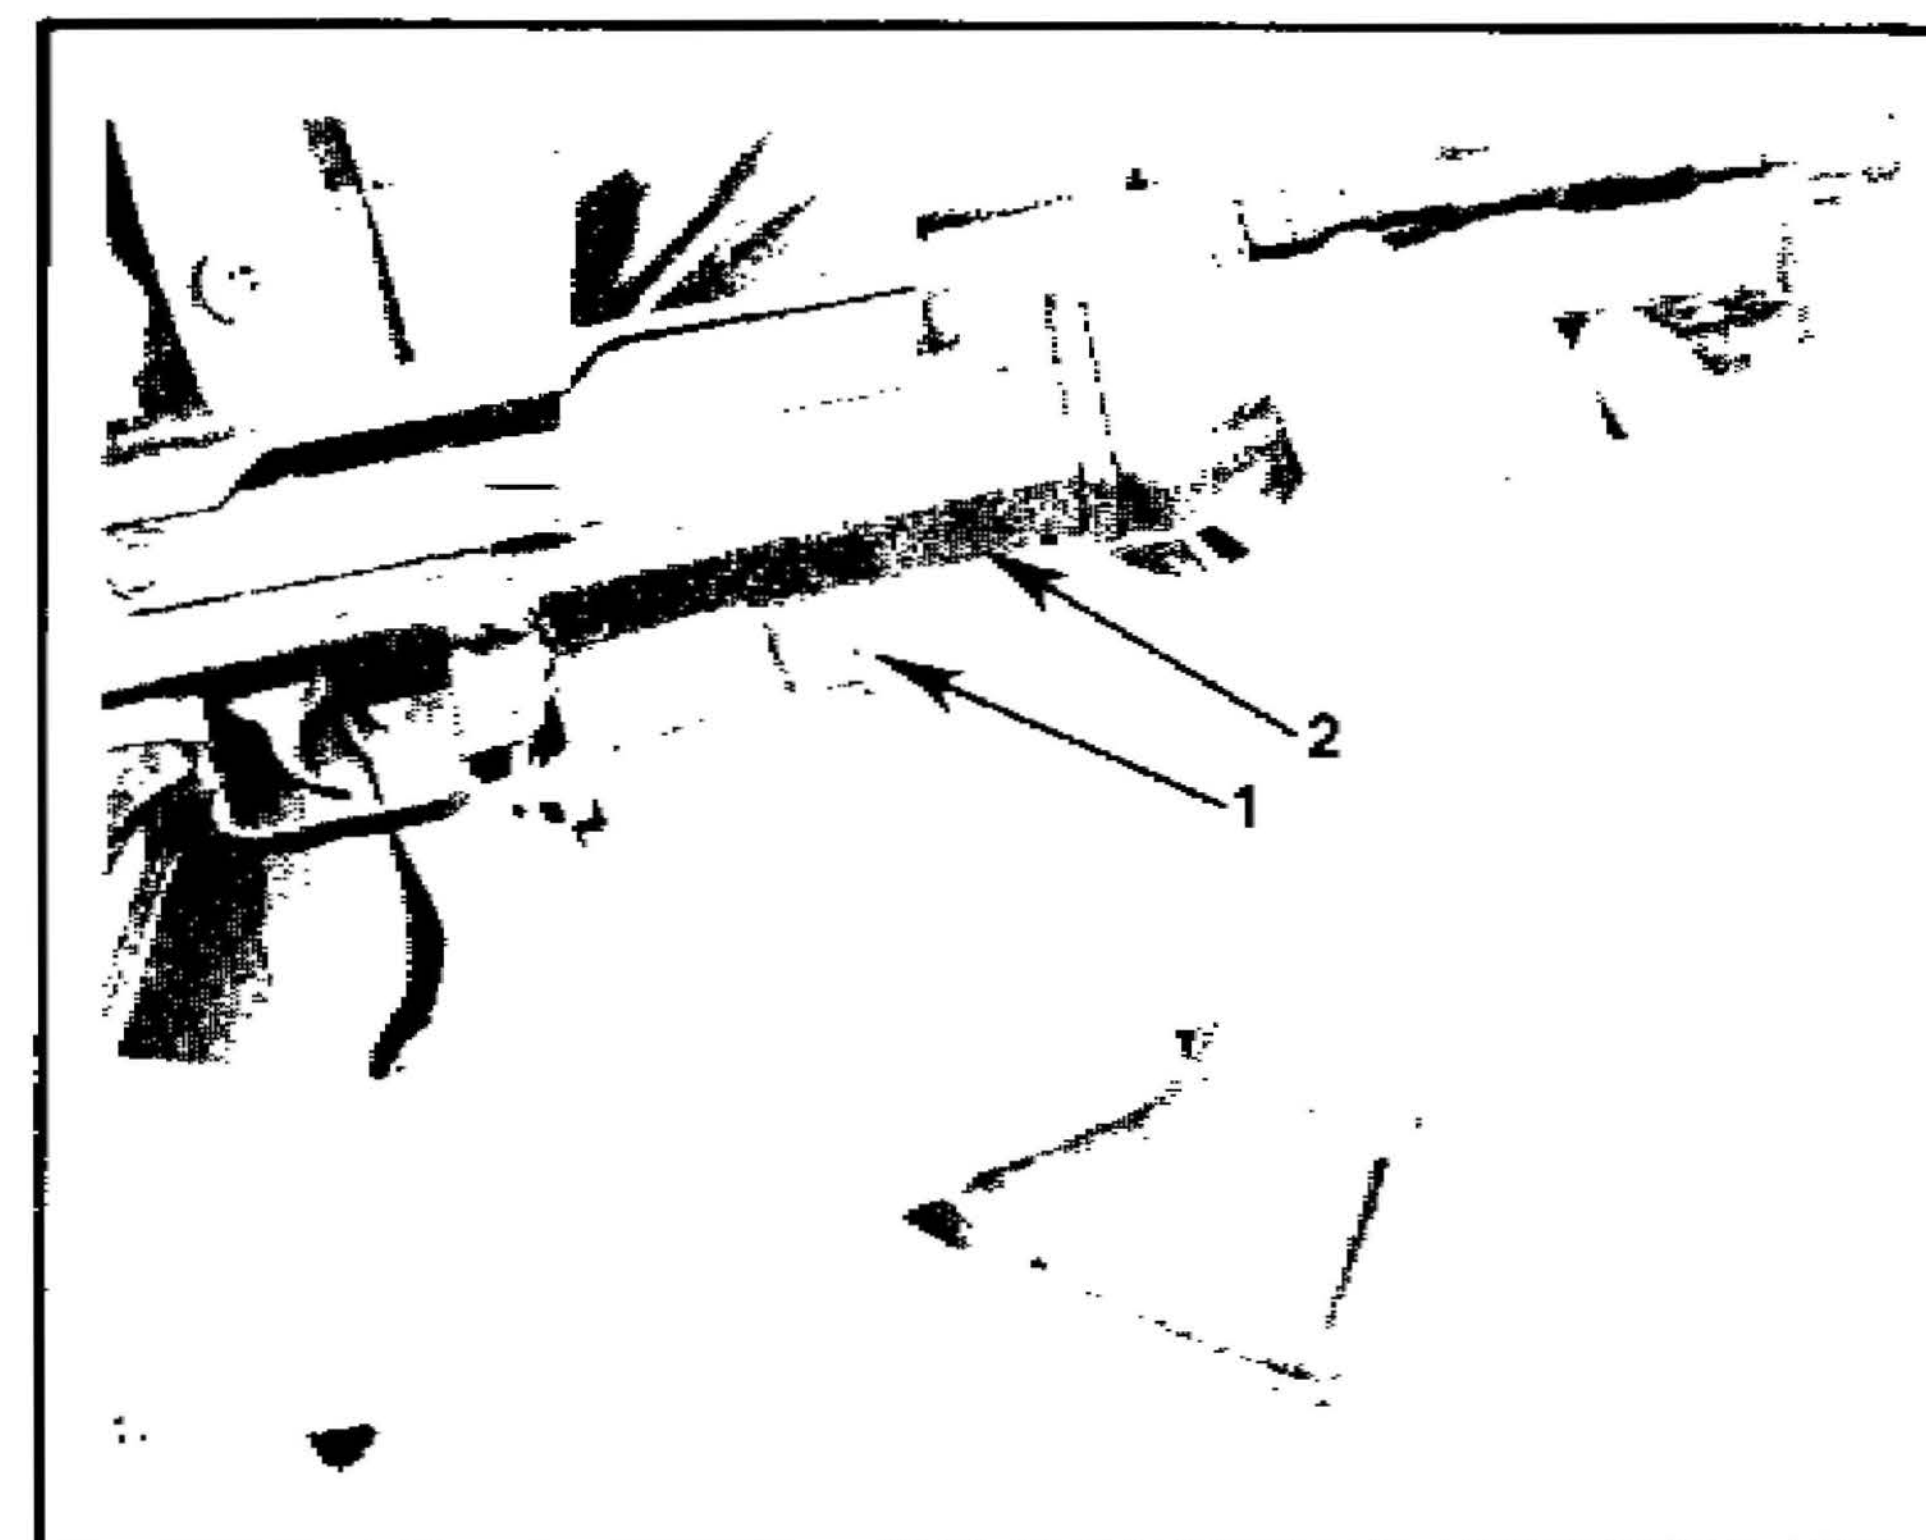

FIGURE 9. INSERTING MAGAZINE
**Inserting the magazine into the receiver:** Cant the magazine forward so the lug on the front of the magazine engages with its recess in the magazine well (fig 9); then pull the magazine to the rear until it snaps into place.